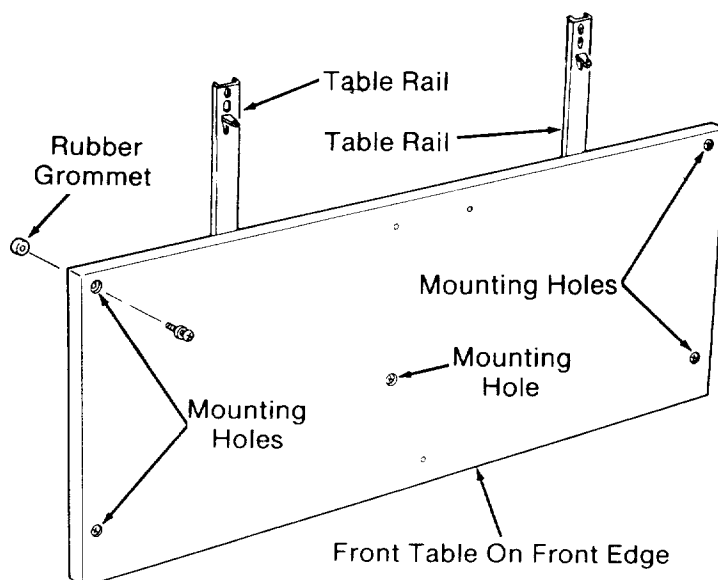

Fig. 79
6. Put a *mounting screw* through each of the *mounting holes*. Then put a *rubber grommet* on the bottom of each *mounting screw*. (Figure 79)